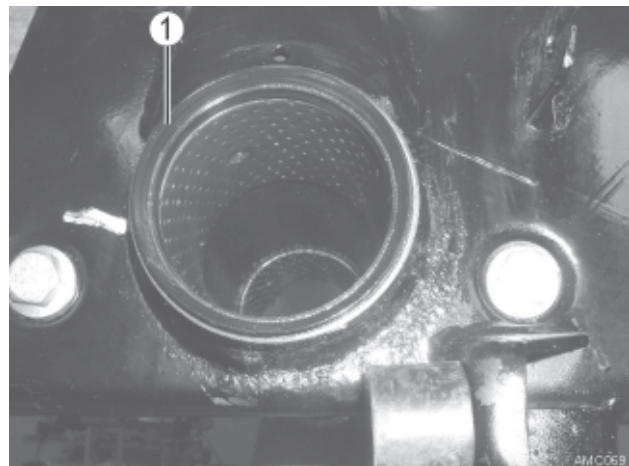

Fig. 35
19. Check sealing ring (Fig 35 -1), replace if necessary.